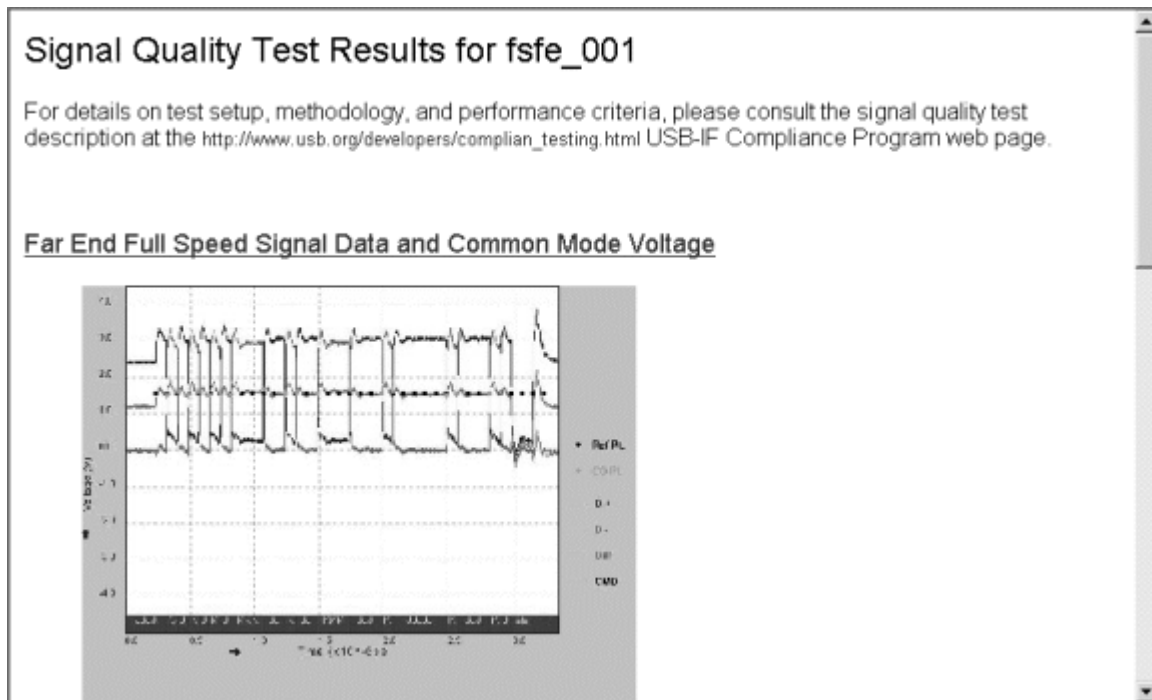

Figure 2-73: Report in the Plug-Fest format
5. View the Tektronix Specific or Plug-Fest Specific report format as HTML pages or the CSV format in Microsoft Excel. Figure 2-73 shows a sample report in the Plug-Fest Specific format.